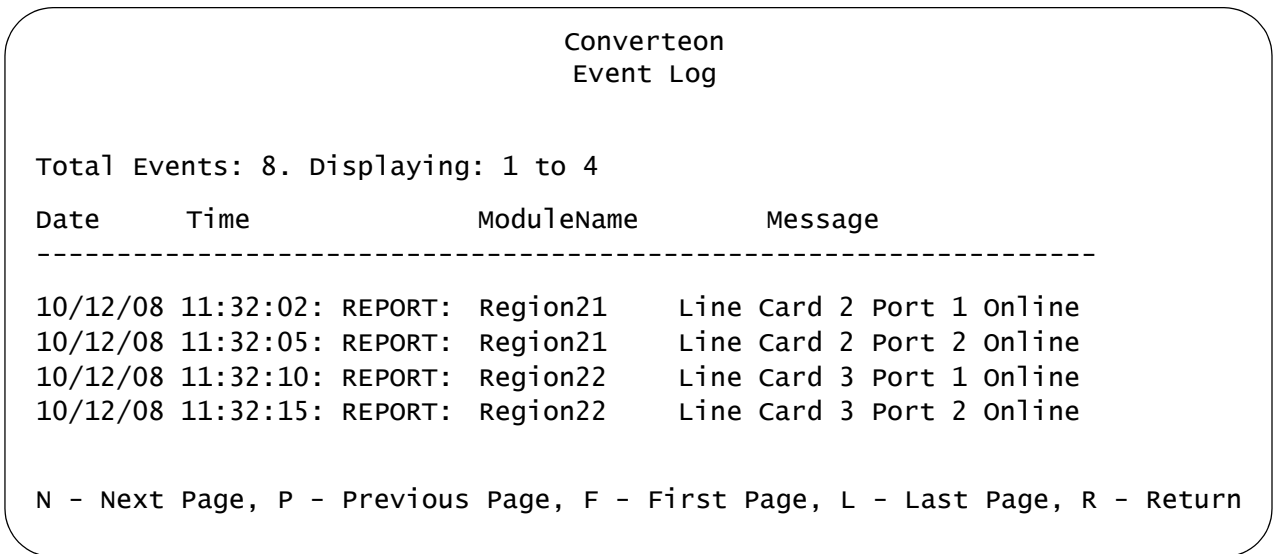

Figure 39. Event Log
3. From the Event Log Menu, select **Display Event Log**. An example of the event log is shown in Figure 39. The messages are displayed from oldest to newest.